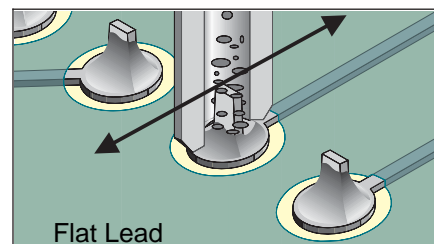

Figure 3 Move Lead & Apply Vacuum
9. For a flat lead, move lead back and forth; for a round lead, use a circular motion and apply vacuum while continuing lead movement. (See Figures 3 & 4.)